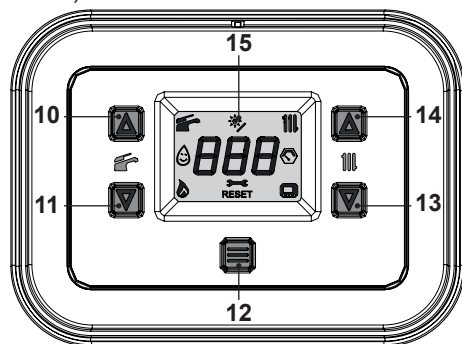
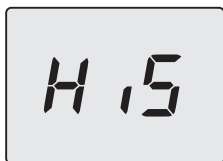
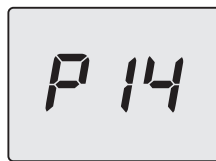
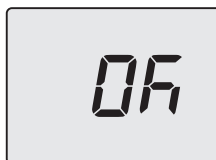

Fig. 8.9
Fig. 8.10
Fig. 8.13
Fig. 8.15
- Enter “programming mode” by pressing the 11 and 13 keys simultaneously for 5 seconds (Fig. 8.9) until **HiS** (Boiler History) appears on the LCD display (Fig. 8.10).
- Press the 12 key for 1 second (Fig. 8.9) to enter the selected parameter. The display will show the following (Fig. 8.13).
- Press button 12 (Fig. 8.9) to confirm the value entered. The display will show the following (Fig. 8.15) for 5 seconds, then move up to the next level.
(Fig. 8.9) to exit the level without changing the value (return to the previous level).
- press the 11 and 13 keys simultaneously for 5 seconds (Fig. 8.9) (return to previous level).
However, if the ambient temperature is not comfortable, the flow temperature of the heating system can be increased or reduced by $\pm 15^\circ\text{C}$ by pressing the keys 13 (reduce) and 14 (increase) (Fig. 8.9).